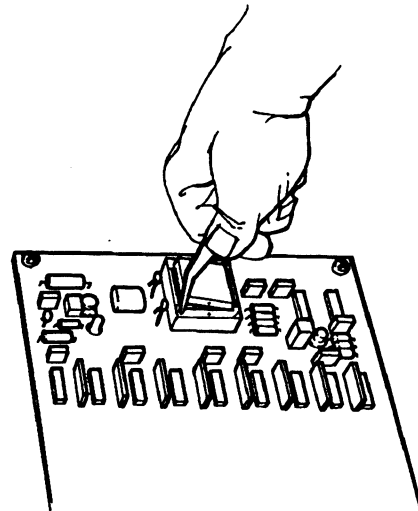

Figure 3 Firmware Removal (typical)
5. Remove 081004 firmware from socket by using enclosed extraction tool (027338). See Figure 3.